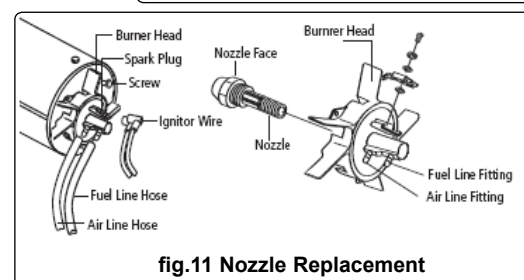

fig.11 Nozzle Replacement
- 6.6.2** Remove the burner head and remove the nozzle (fig.11).